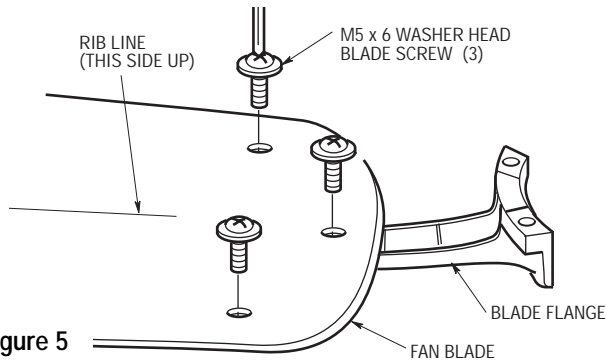

Figure 5
**IMPORTANT: THE SIDE OF THE FAN BLADE HAVING THE RIB LINE MUST BE FACING UPWARDS AS SHOWN IN FIGURE 5.**
- 7. Mount blade flanges to fan blades using three M5 x 6 washer head blade screws per blade (Figure 5).